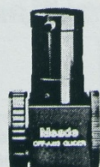

Figure 2-6: Off-axis Guider
- 1** Attach an off-axis guider or guide scope to your telescope (Figure 2-6).
- 5** Insert an eyepiece into the eyepiece holder (Figure 2-6) and locate a bright star (known as **guide star**) for the Pictor to guide from. Try rotating the off-axis guider rather than moving the telescope so that the framed picture in the camera is not disturbed.